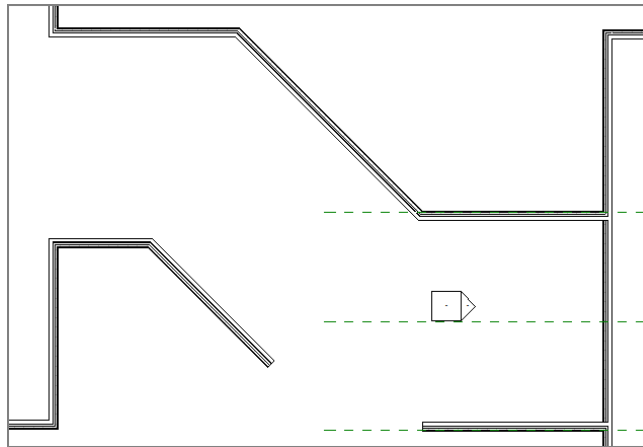

FIGURE 2.13: Creating the bottom of the corridor
30. Repeat the procedure for the angled wall. Make sure you offset the wall to the left (see Figure 2.13).